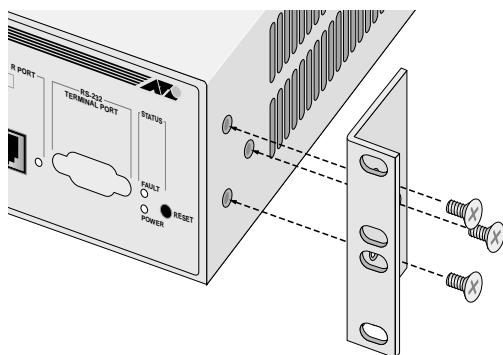

Figure 6 Attaching Rackmounting Brackets
5. Attach the rackmounting brackets to each side of the switch, using the six flathead screws that came with the switch package as shown in Figure 6.